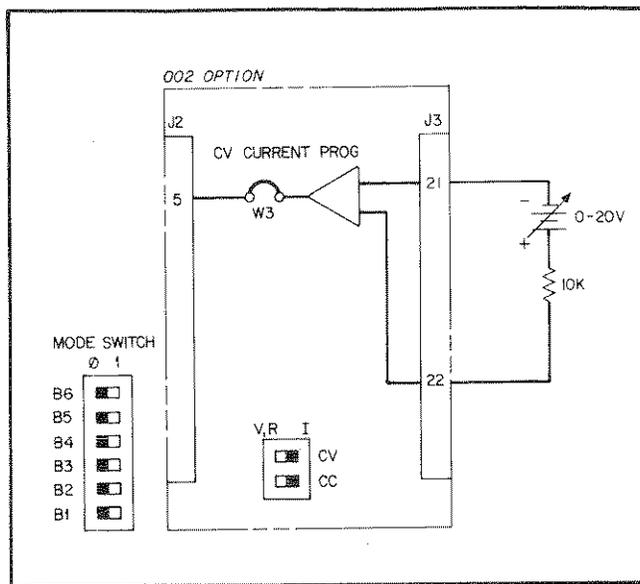

Figure A-11. Troubleshooting Current Programming of CV Mode
- Proceed to test set-up shown in Figure A-11 and/or A-12.